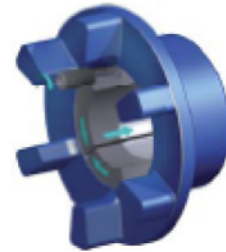

Fig. 2
3. Screw in lightly oiled assembly screws. Do not tighten the screws yet (Fig. 2).